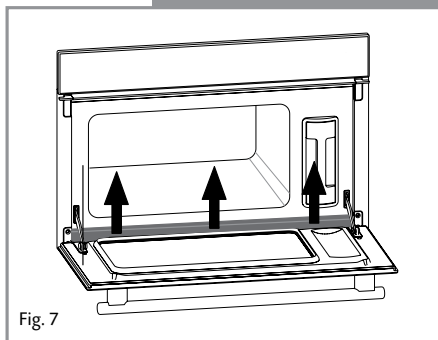

Fig. 7
3. Dismantle the channel at the front of the oven (as shown in fig. 7) by pulling it upwards. Wipe it with a soft cloth and then replace, using the three notches provided.